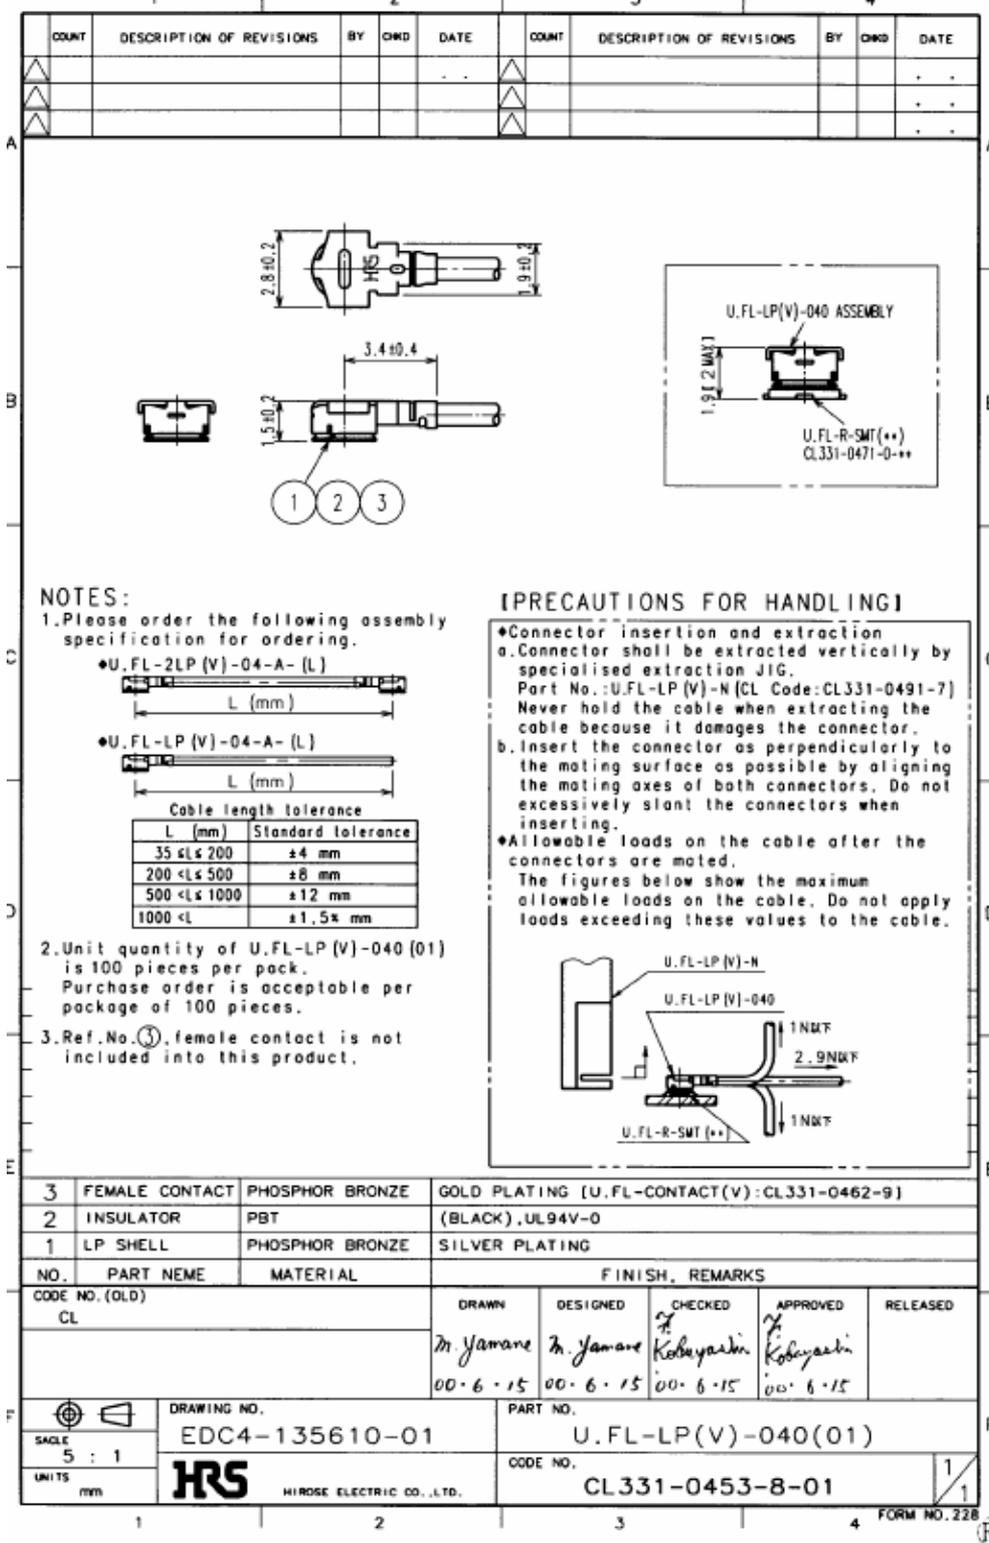

Figure 43: Specifications of U.FL-LP-(V)-040(01) plug
In addition to the connectors illustrated above, the U.FL-LP-(V)-040(01) version is offered as an extremely space saving solution. This plug is intended for use with extra fine cable (up to $\varnothing 0.81\text{mm}$) and minimizes the mating height to 2mm. See Figure 43 which shows the Hirose data sheet.